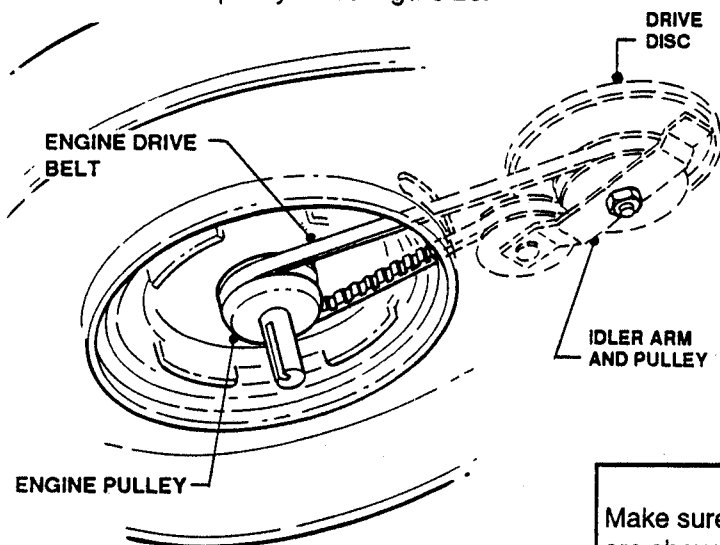

FIGURE 26
16. Install new belt around blade pulley, then feed other end through deck opening and around Drive Disc pulley. See Figure 26.